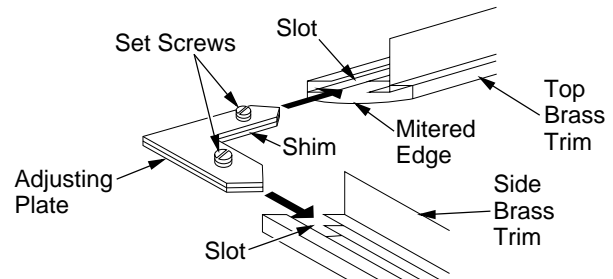

Figure 9 - Assembling Brass Trim
3. Align shim under adjusting plate as shown in Figure 9.
4. Slide one end of adjusting plate/shim in slot on mitered edge of top brass trim (see Figure 9).
5. Slide other end of adjusting plate/shim in slot on mitered edge of side brass trim (see Figure 9).